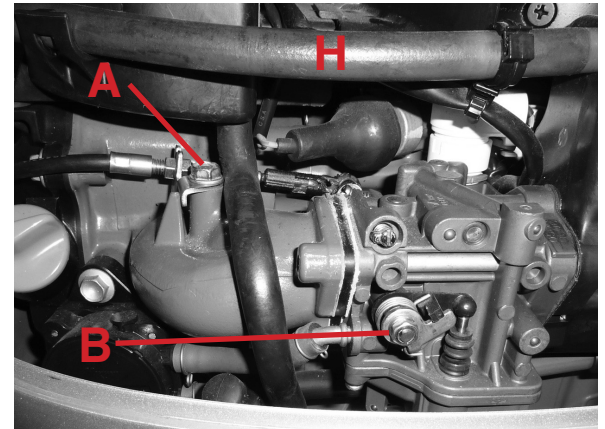

Figure 1
C: Relocate wiring harness - use cable ties in kit to secure it ABOVE hose "H" in Fig. 1,
Step 3: **TILLER MOTORS ONLY** - See Fig 1, 2 & 3
Step 4: **REMOTE CONTROL MOTORS ONLY** - See Fig 1, 2 & 3
- A: Where bolt "A" (Fig 1) is located, there is a plastic plug. Remove this plug.
- A: Remove nut and lock washer "B" (Fig. 1) from carb arm with 8mm wrench.